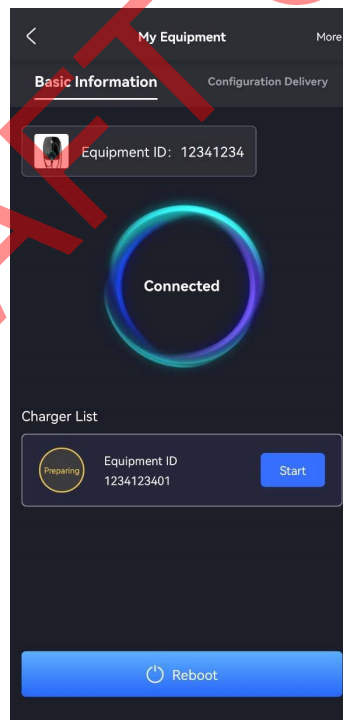

Figure 5-10: Start charging
6. After successful Bluetooth Pairing, it shall show "Connected" as shown in Figure 5-10. Click "Start" to initiate charging.